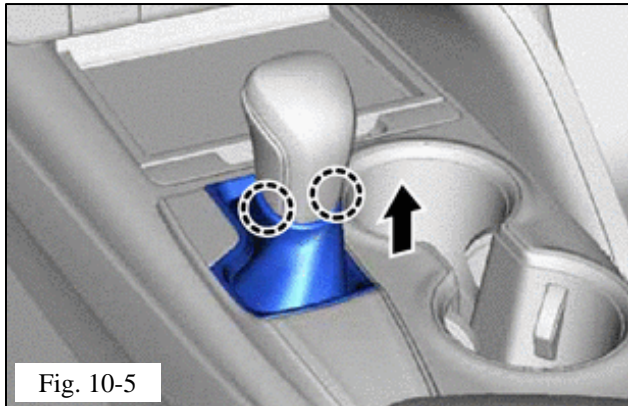

Fig. 10-5
- (e) Engage the 2 claws to connect the shifting hole cover sub-assembly (Fig. 10-5).